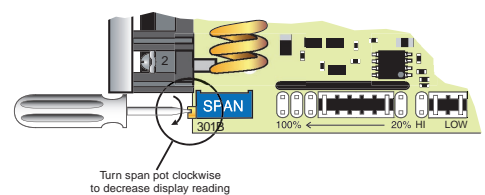

Figure 10 – Span Pot Adjustment
- 3) The final adjustment can now be made using the span pot (See Figure 10).